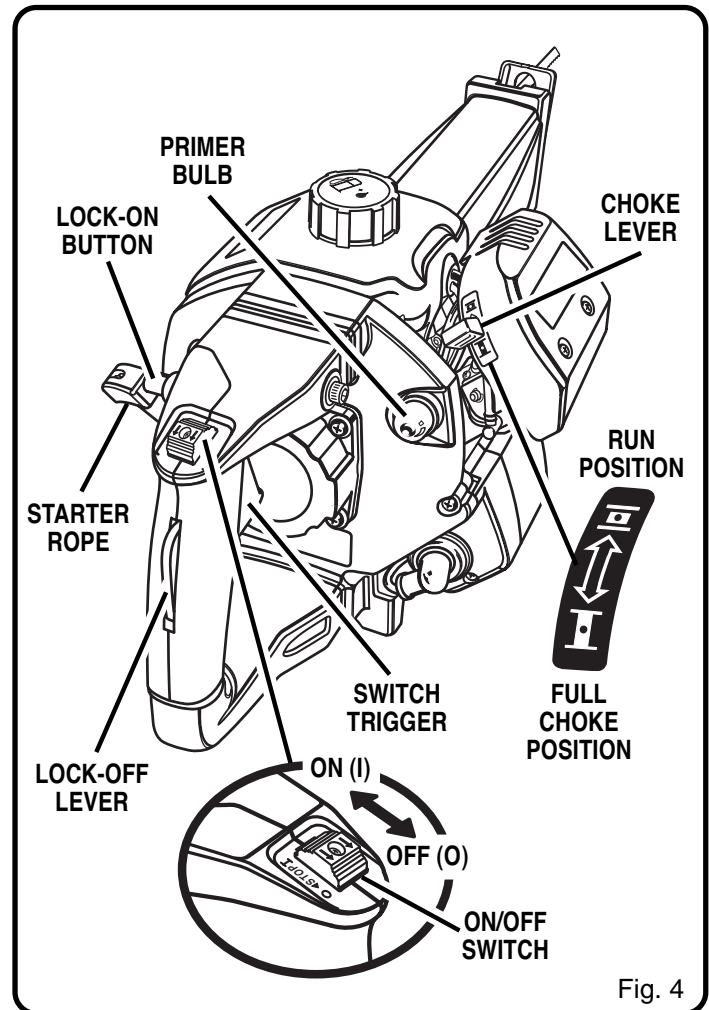

Fig. 4
2. Slide the On/Off Switch to the **ON** position. See Figure 4.
5. Fully press and release primer bulb slowly 5 to 7 times. Fuel should be visible in the bulb. If fuel is not visible, press three (3) more times, or until it is.